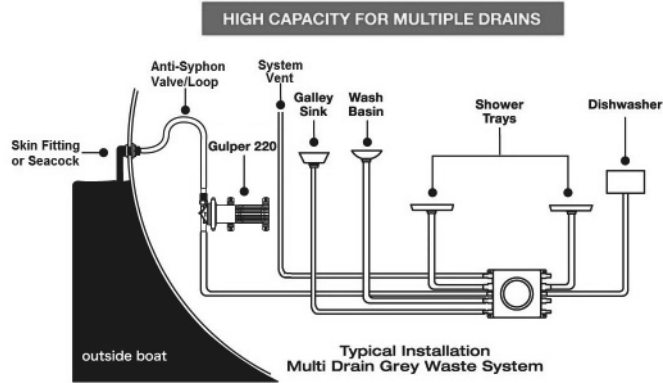
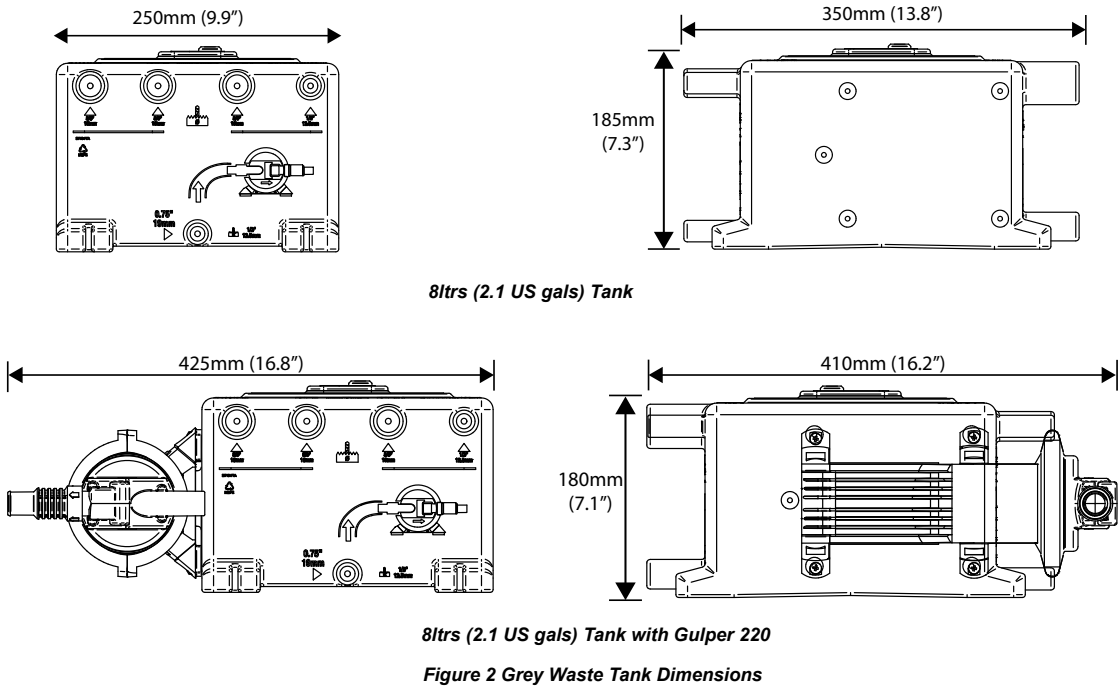

Figure 1 Typical Grey Waste Tank Installation in Multi Drain Grey Waste System
Figure 2 Grey Waste Tank Dimensions
- Fig. 1 Typical Installation
- Fig. 2 Grey Waste Tank Dimensions
- All pipework **must** contain a correctly installed anti-syphon valve/loop. (Figure 1)
- The pumped water **must** be evacuated through a skin fitting or seacock **above the waterline**. (Figure 1)
The grey waste tank is designed for use with grey waste water in recreational marine vessels. Typical installation is shown in Figure 1. For tank dimensions see Figure 2.